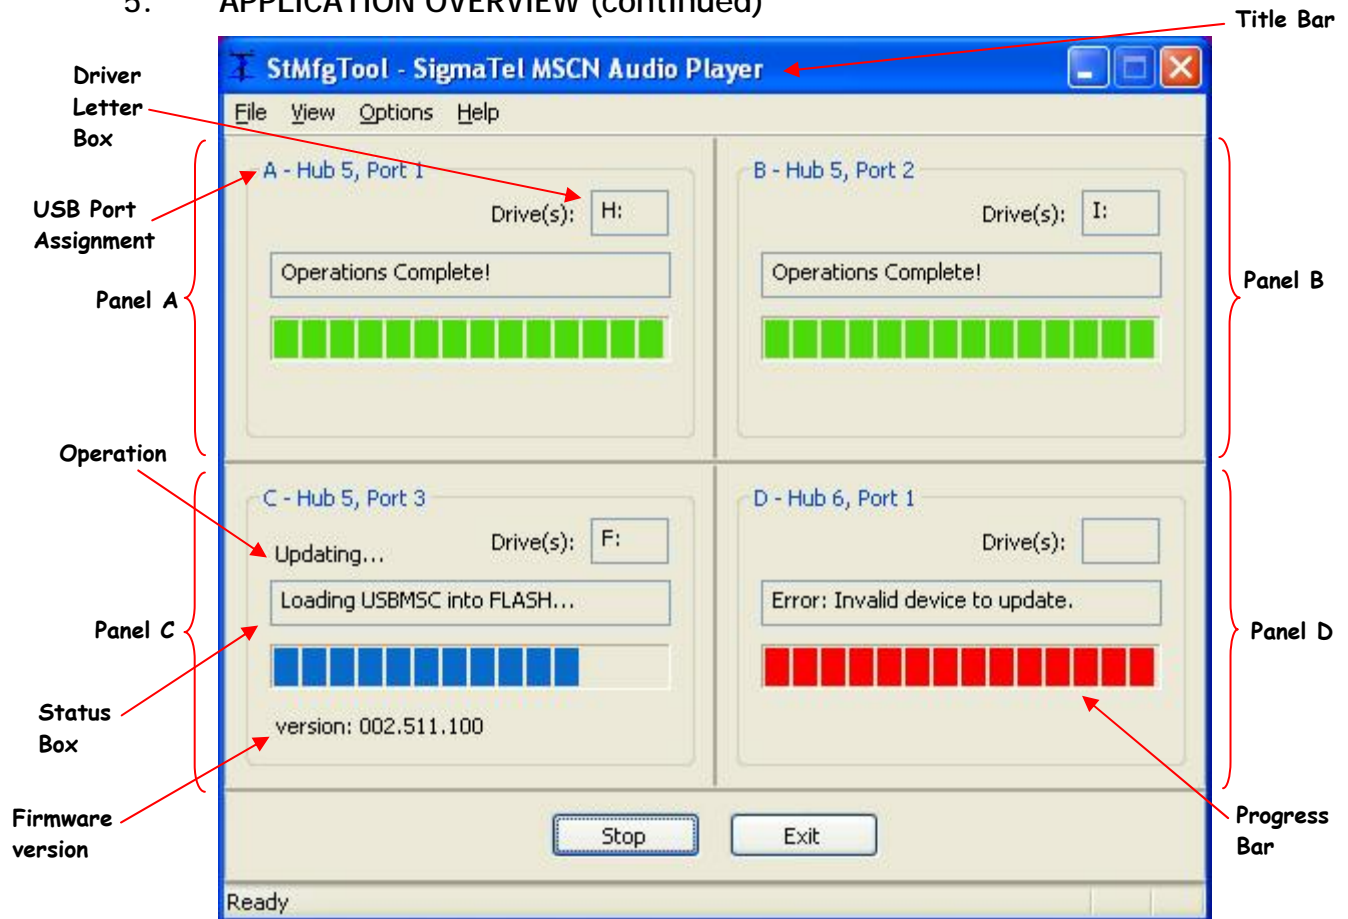

Figure 2
This section introduces the application's main window, describes the function of the various elements, and defines terms necessary to describe the overall program operation. The main application window's un-initialized state is shown here in Figure 1, and the main window's running state is shown at the end of this section in Figure 2.
The title bar of the main application window reflects the currently selected profile (see Figure 2). If an invalid profile is selected, or if no profile exists, *Invalid Profile* will appear in the title bar (see Figure 1).
The main application window contains four (4) Operations Panels (panels), labeled A, B, C, and D. Each panel is assigned a physical USB port through the Configuration dialog (see Section 6.2, USB Ports (tab)). The assigned USB hub and port are shown for each panel (see Figure 2), and unassigned panels display *Unassigned* (see Figure 1).
**Monitoring** - Once a USB port is assigned to a panel, USB device activity on the assigned port is monitored in the corresponding Operations Panel. An Operations Panel is in *monitoring mode* when a port has been assigned to the panel, and the Start button has not been pressed. The **Operation** field in the panel (see Figure 2) will display *Monitoring...* when in this mode.
In monitoring mode, the panel will display the name of the device connected to its assigned port in the **Status Box** (see Figure 2). If a device is not connected to the assigned port, *No device connected* is displayed. Any drive letters associated with the connected USB device will be displayed in the panel's **Drive Letter Box**.
**Running** - After the Start button has been pressed, the Operations Panels reflect the operating or running state of the application (see Figure 2). The **Operation** field in the panel will display the type of the current operation, *Updating...* or *Copying...* when in *running mode*.
The **Progress Bar** indicates progress through the list of operations (see Figure 2). The **Progress Bar** grows to the right and is BLUE while processing operations. When all operations for a device have been completed, the **Progress Bar** is completely filled and turns GREEN. A RED **Progress Bar** indicates an operation failure.
The **Firmware Version** field (see Figure 2) displays the firmware version that is being flashed onto the media during an UPDATE operation. This field is only used during UPDATE operations.
A physical USB port is assigned to an Operations Panel during the application configuration process detailed in Section 6.2, USB Ports (tab). The assigned USB hub and port are shown for each Operations Panel (see Figure 2), and unassigned panels display *Unassigned* (see Figure 1).